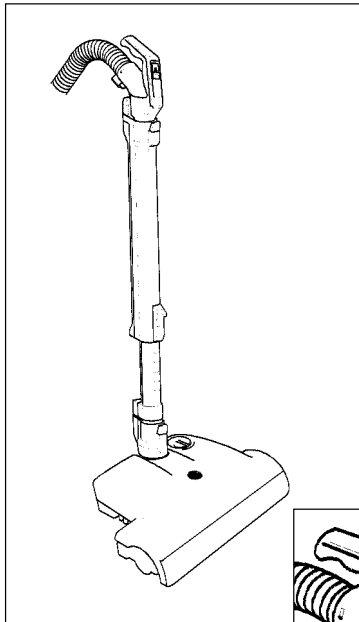
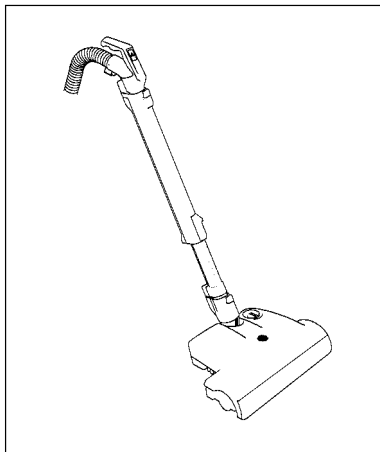

Figure 1
Figure 3
Starting The Machine - Figures 1 & 2
A. Before turning on your canister, make sure that the vacuum handle is in its upright locked position (figure 1).
Operating The Machine - Figure 3
B. When the power head is switched on with the handle in the upright locked position (see figure 1 above), the brush roller will not spin. To release the power head from the upright locked position, gently place your foot on the power head for leverage and lower the handle into the operating position (figure 3). The brush roller will then start spinning. The amber indicator light may flicker for a few seconds when you lower the handle - this is normal.